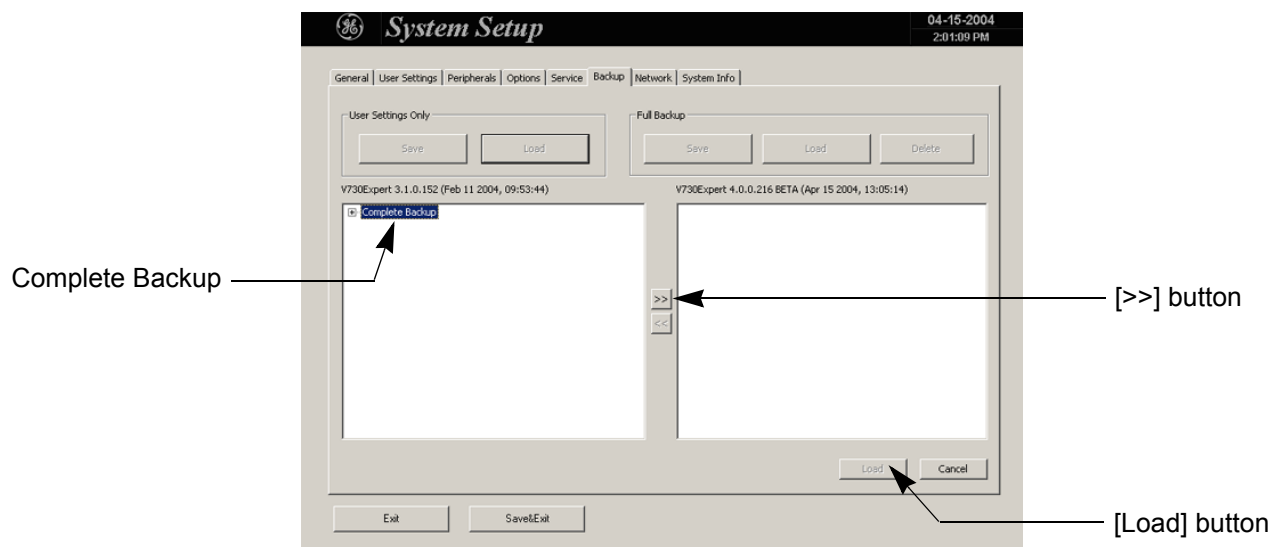

Figure 4-27 Load Backup Data
- 7.) Select the **Complete Backup** (marked blue; see: Figure 4-27) and click the $\gg$ button to copy the Complete Backup into the Load Data field.